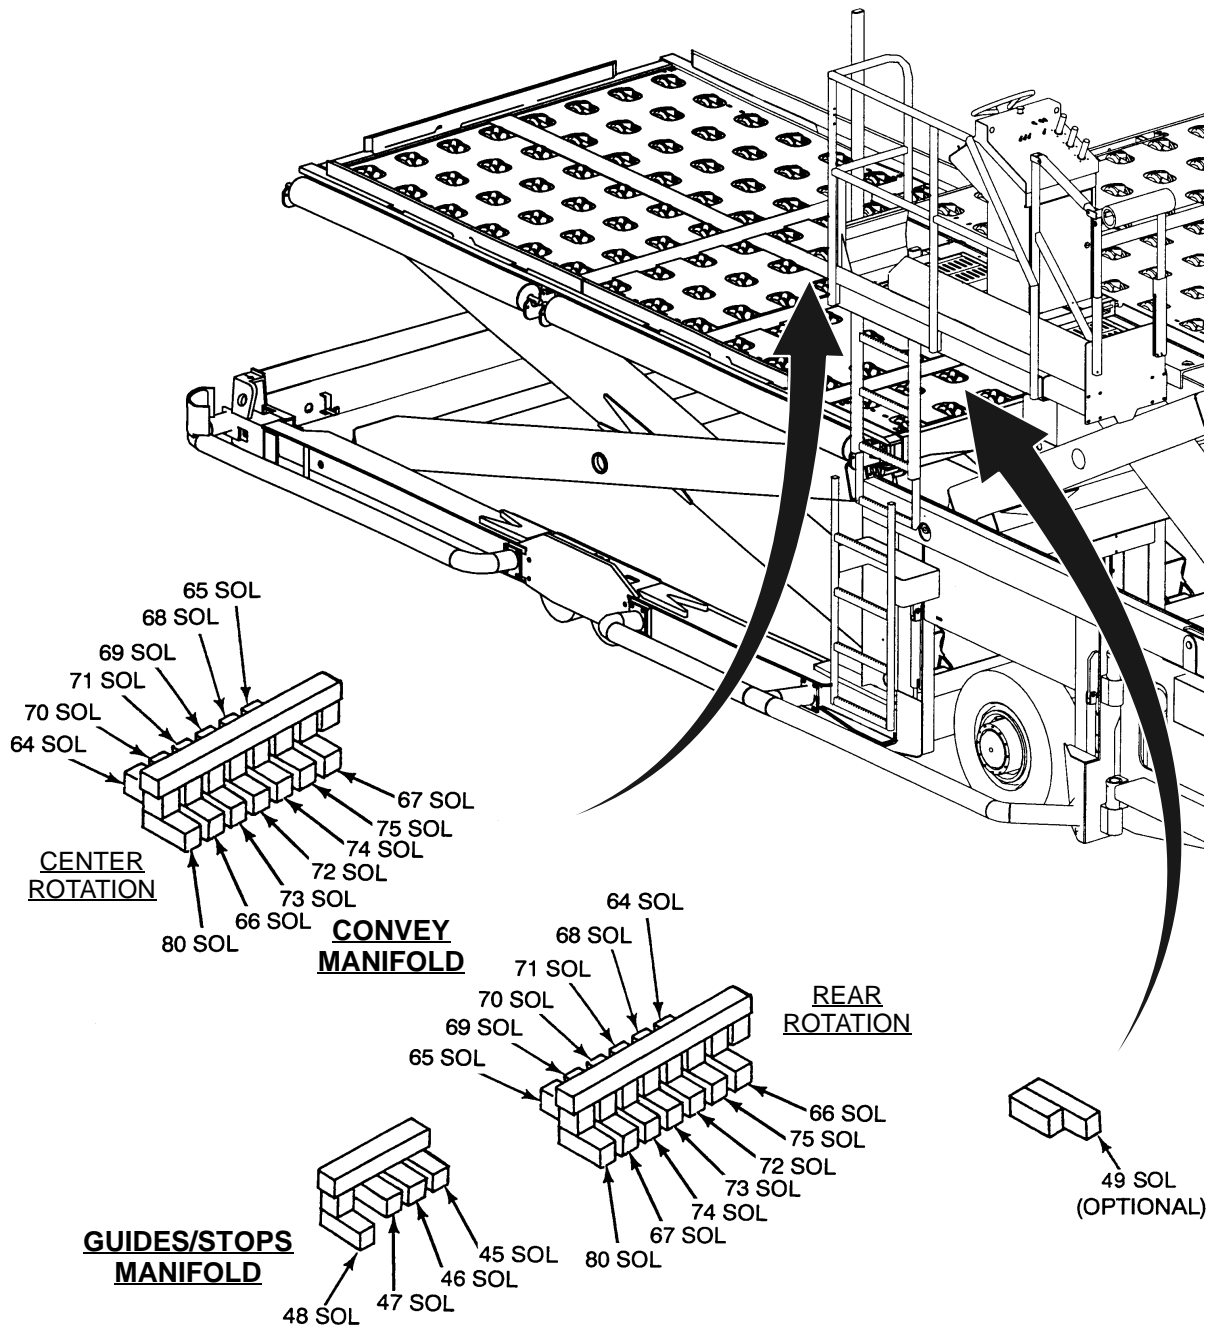
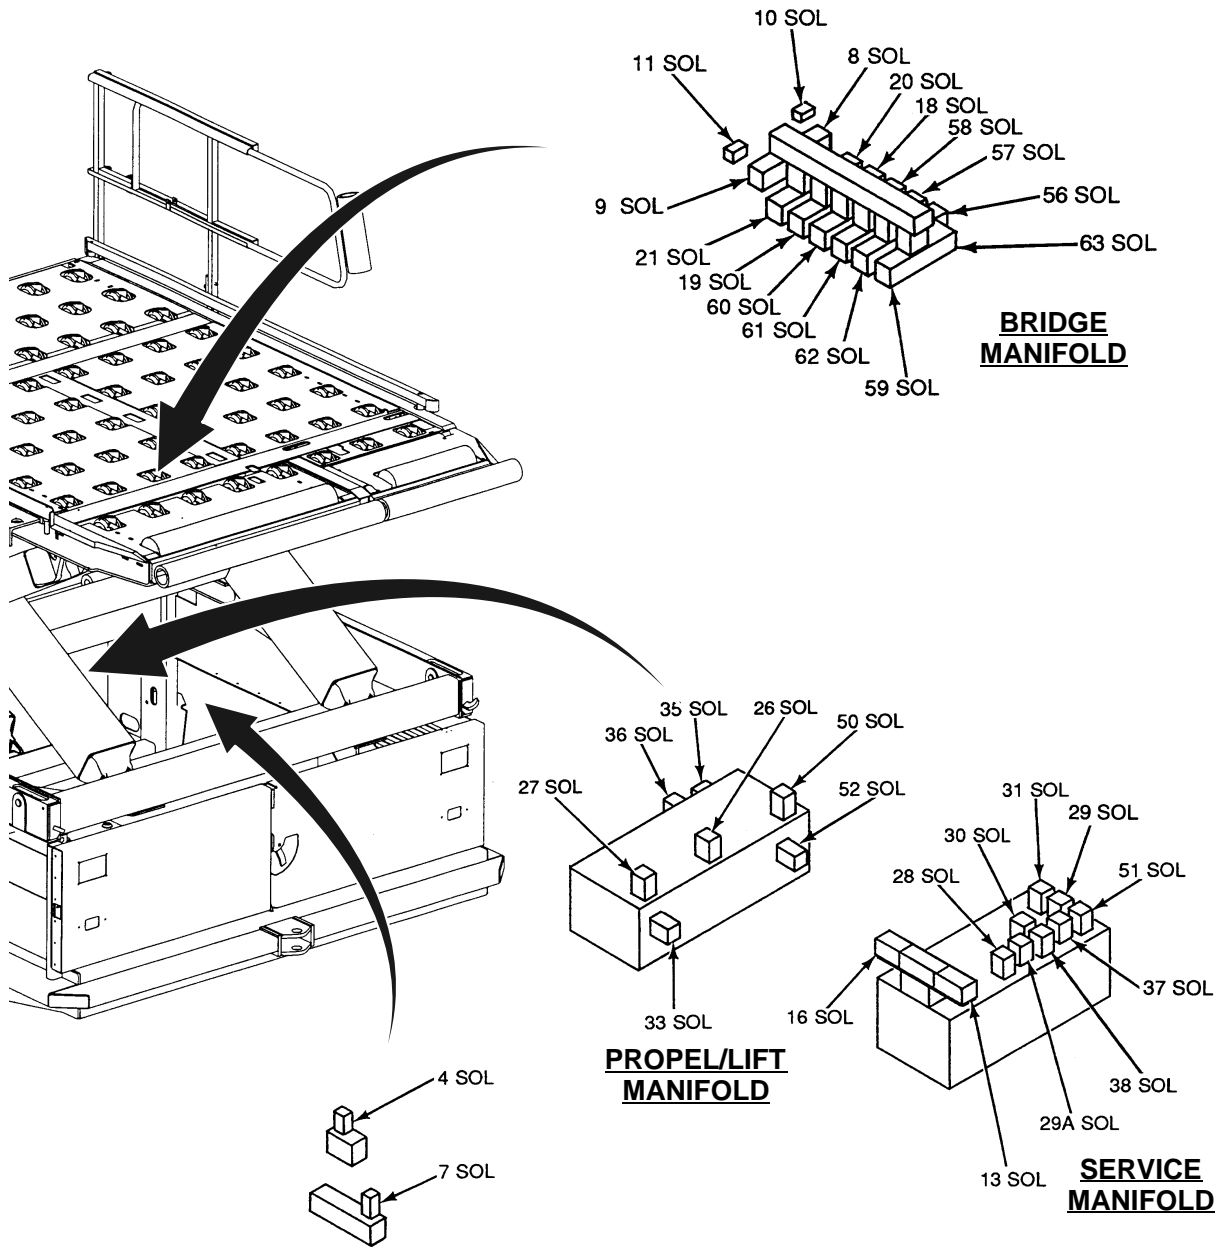

Figure 2
Figure 3
- E. Solenoid Valve, Hydraulic Locations (Figure 2, Figure 3)